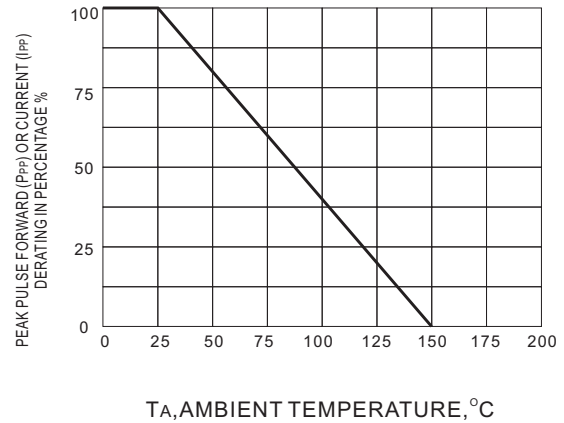
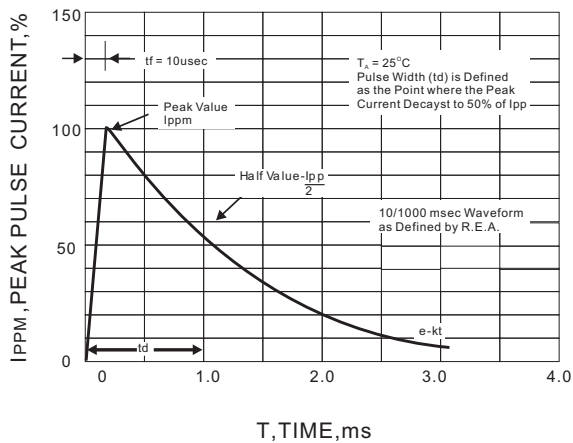

Fig.2 DERATING CURVE
Fig.3 PULSE WAVEFORM
- 1.Non-repetitive current pulse, per Fig.3 and derated above T_A=25°C per Fig.2 .